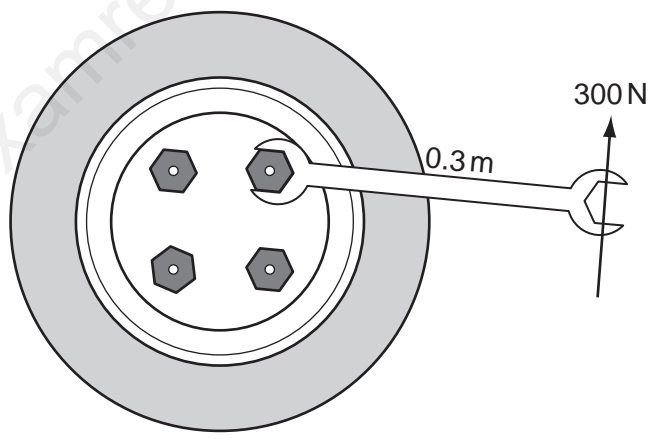

Fig. 8.2
- 6 A wheel on a car needs changing. Fig. 8.2 shows a spanner being used to turn a wheel nut.